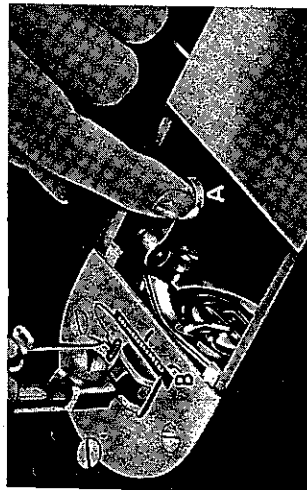

Fig. 6
- a. Move slide plate (Fig. 6) to extreme left. (Note: Illustration is from rear of machine, which makes it appear that slide plate has been moved to right, instead of left.)
- b. Press lever "A" (Fig. 6) down, thus lowering and